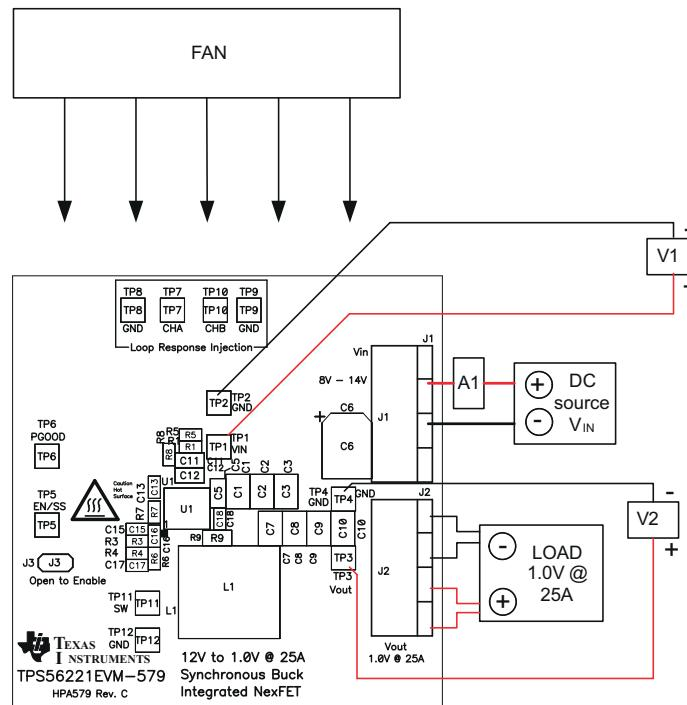

Figure 5-1. TPS56221EVM-579 Recommended Test Setup
Figure 5-1 is the recommended test setup to evaluate the TPS56221EVM-579.
2. Prior to connecting the DC input source, VIN, it is advisable to limit the source current from VIN to 4.0 A maximum. Make sure VIN is initially set to 0 V and connected as shown in Figure 5-1.
3. Connect VIN to J1 as shown in Figure 5-1.
4. Connect ammeter A1 between VIN and J1 as shown in Figure 5-1.
5. Connect voltmeter V1 to TP1 and TP2 as shown in Figure 5-1.
6. Connect voltmeter V2 to TP3 and TP4 as shown in Figure 5-1.
7. Place the fan as shown in Figure 5-1 and turn it on, ensuring that the air blows directly across the evaluation module.
1. Set up the EVM as described in Section 5.3 and Figure 5-1.